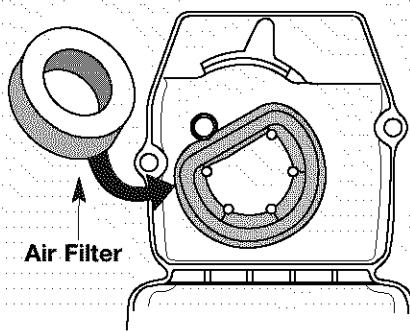

Fig. 14
2. Remove the air filter from behind the air filter/muffler cover (Fig. 14).
6. Replace the air filter in the air filter/muffler cover (Fig. 14).